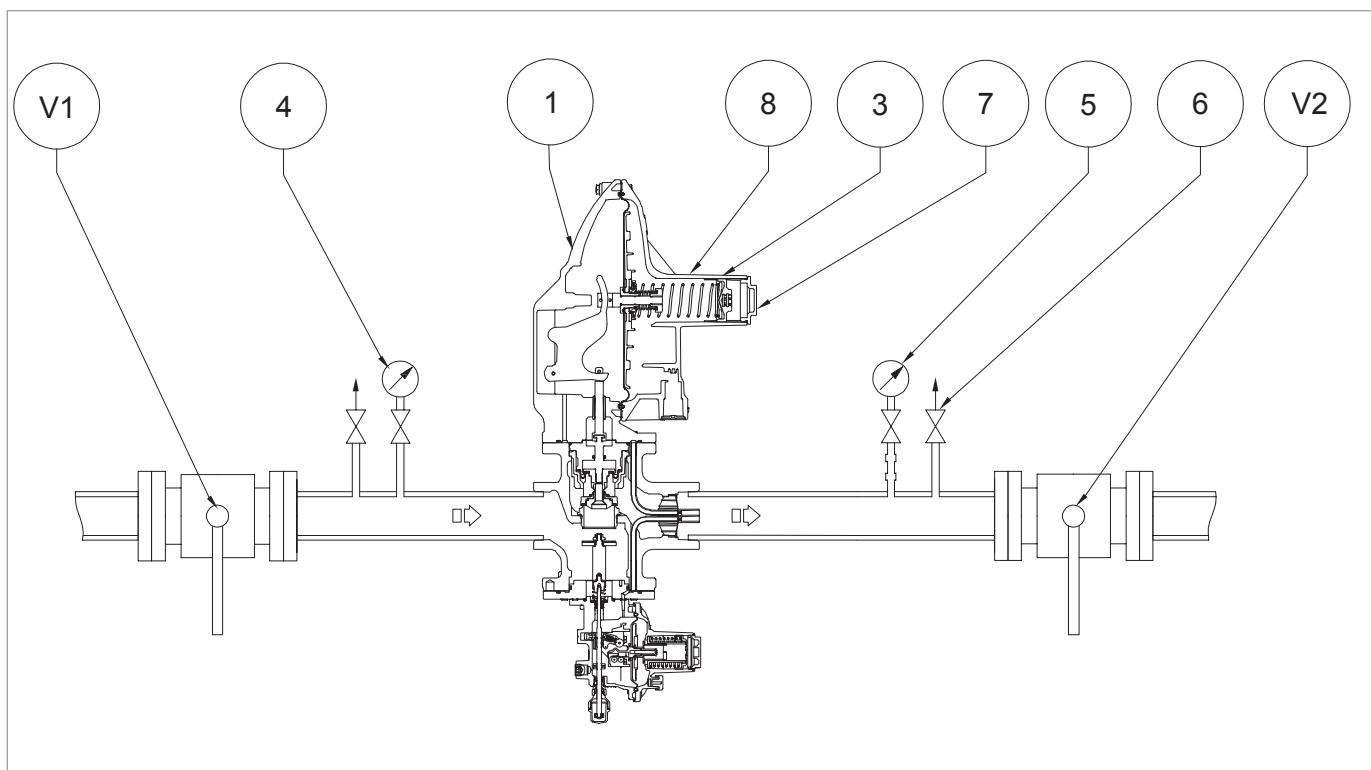

Fig. 8.24.
3	<p>In case the required minimum pressure value is not reached by intervention of the minimum block, remove the adjustment ring nut (fig. 8.20, ref. 3) and remove the adjustment spring (fig. 8.24, ref. 8).</p> <p>NOTICE</p> <p>Check the value of the slam-shut valve tripping pressure indicated by the downstream pressure gauge (fig. 8.20, ref. 5).</p>
5	<p>After verifying that the slam-shut valve trips at the preset value, act as follows:</p> <ol style="list-style-type: none"> Close the air vent valve (fig. 8.20, ref. 6) Position the adjustment spring (fig. 8.24, ref. 8), the end cap (fig. 8.24, ref. 7), adjusting screw (fig. 8.20, ref. 3) Slowly open the upstream shut-off valve (V1) until the downstream pressure value (Pd) reaches the regulator's set value, referring to the downstream pressure gauge (fig. 8.20, ref. 5) Close the upstream shut-off valve (V1) Slowly and partially open the air vent valve (fig. 8.20, ref. 6) to decrease the downstream pressure by referring to the downstream pressure gauge (fig. 8.20, ref. 5) until the minimum pressure trip value is reached Verify the correct calibration of the minimum spring by repeating steps 3-4-5 at least three times Perform calibration of the main regulator referring to par. 8.5